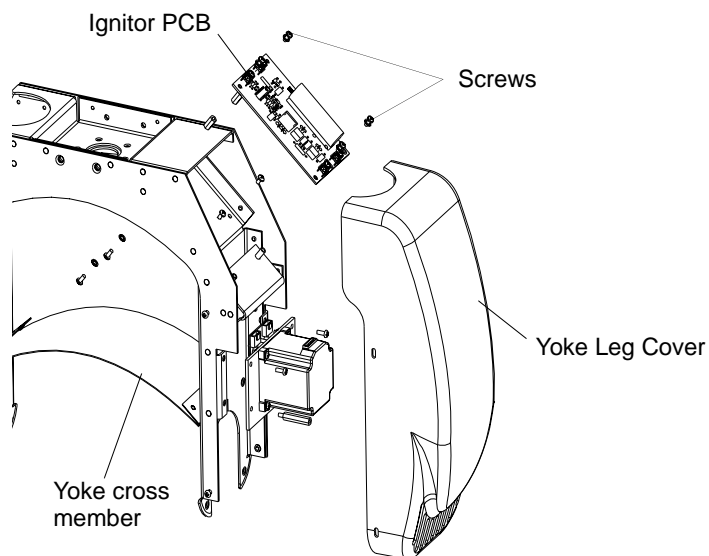

Figure 2-17: Ignitor PCB Replacement
Step 2. At each yoke leg, remove yoke leg cover by removing four 6-32×5/16" PTB screws. Figure 2-17.